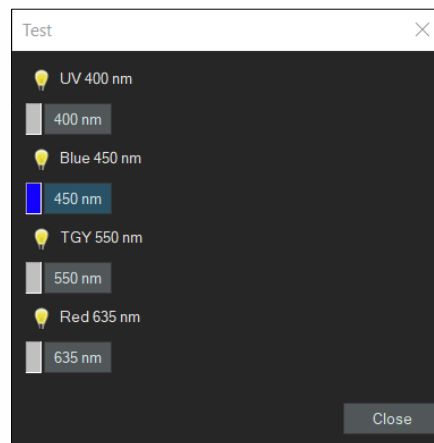

Figure 6: Test window. Selecting each LED should result in illumination - if intensity is >0% on the Control Pod or LightBridge
7. This opens the Test window, where the LEDs can be individually selected, and illumination observed (Figure 6).